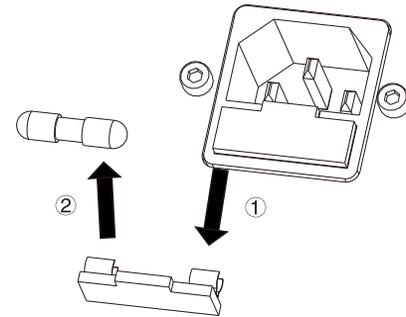

Figure 7-3 Diagram of Fuse Replacement
2. Remove the fuse box from the power input filter with ascrewdriver, and put in new fuse as shown by Figure 7-3;